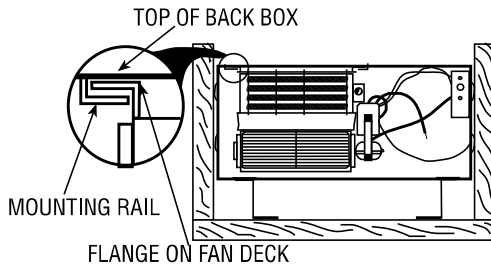

Figure 6
2. Insert flanges on fan deck into mounting rails and slide back until fan deck stops (see Figure 6).